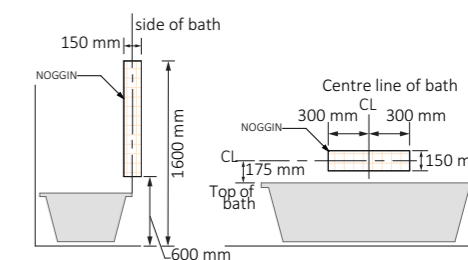

Figure 6.2a: Location of noggings for walls surrounding a bath
(2) THE REQUIREMENTS OF (1) NEED NOT BE COMPLIED WITH IF THE WALLS OF THE ROOM ARE CONSTRUCTED OF CONCRETE, MASONRY OR ANOTHER MATERIAL CAPABLE OF SUPPORTING GRABRAILS WITHOUT ADDITIONAL REINFORCEMENT.
(3) WHERE THE WALL SUPPORTING THE REINFORCEMENT INCLUDES A CAVITY SLIDER, IT MUST BE DESIGNED AND CONSTRUCTED IN WAY TO SUPPORT LOADS IMPOSED BY REINFORCEMENT, LININGS AND THE FUTURE PROVISION OF HANDRAILS AND PROVIDED FOR THE EXTENT REQUIRED BY FIGURES 6.2A, 6.2B, 6.2C, 6.2D, 6.2E, 6.2F AND 6.2G.
- (1) REINFORCING CONSTRUCTED IN ACCORDANCE WITH THE REQUIREMENTS OF (3) MUST BE PROVIDED IN THE LOCATIONS DEPICTED IN;
(A) FIGURES 6.2A OR 6.2B FOR WALLS SURROUNDING A BATH; AND